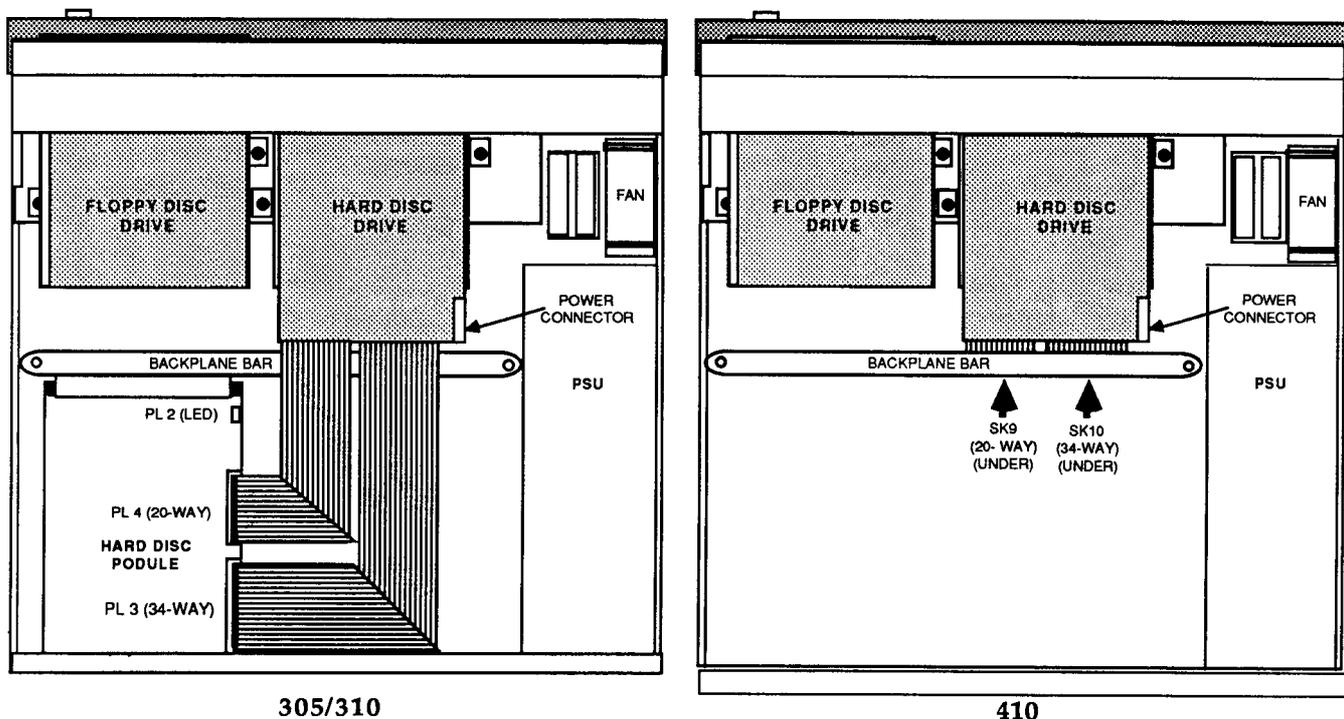

FIG. 6 CONNECTIONS
16. Connect the hard disc drive power cable, coming from the PSU, to the power connector on the hard disc drive (see fig. 6). Note: Some hard disc drives may have a power connector on a short flying lead.
Connect the LONG 34-way cable between PL3 on the Hard Disc Podule and the 34-way connector on the rear of the drive; the LONG 20-way cable connects between PL4 on the Podule and the corresponding connector on the drive. Route the cables as indicated below in figure 6.